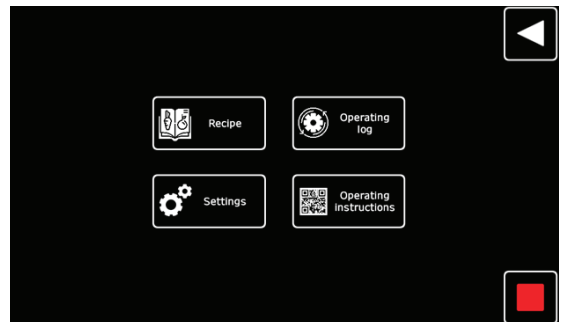

Figure 14-2.
2. Select the white “back arrow” in the top right corner of the display screen to return to the operating screen. (Figure 14-2).
2. Select the “Recipe” button. (Figure 14-2).